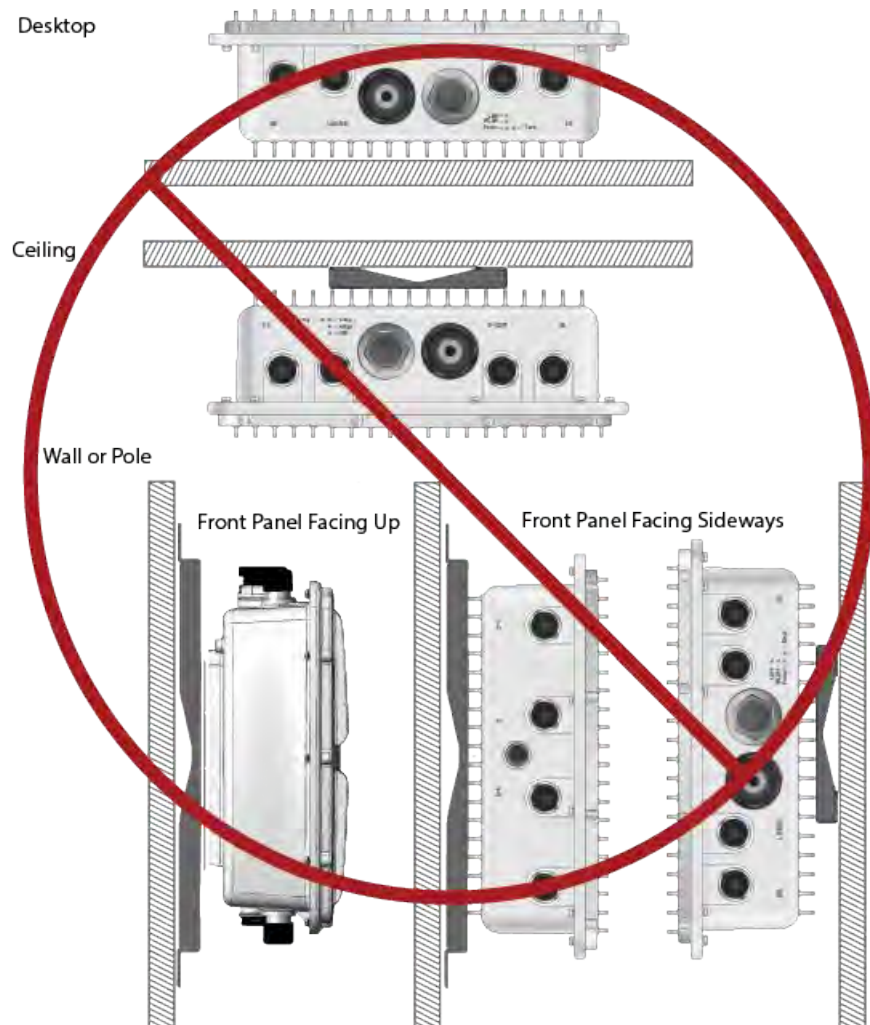

Figure 26. Invalid Orientations of the Access Point
- ❑ The access point must not be installed in the orientations shown in Figure 26.
For the orientations of the access point, see Figure 26 on page 53.